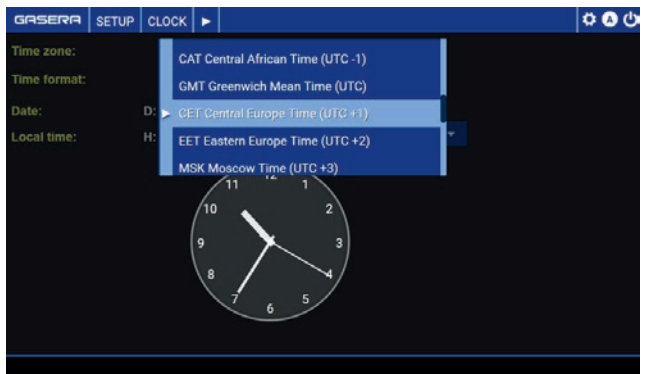

Figure 63. Selecting Time zone settings.
**Time zone** can be selected from the drop-down menu as presented in Figure 63.